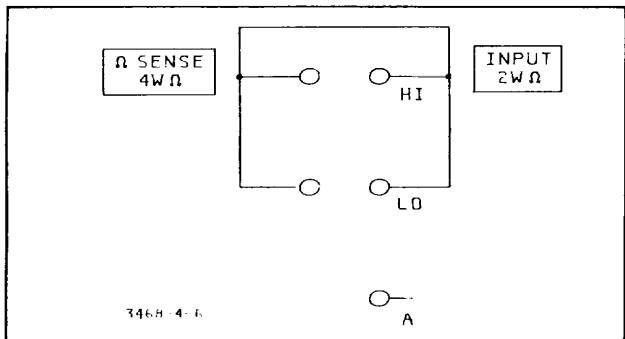
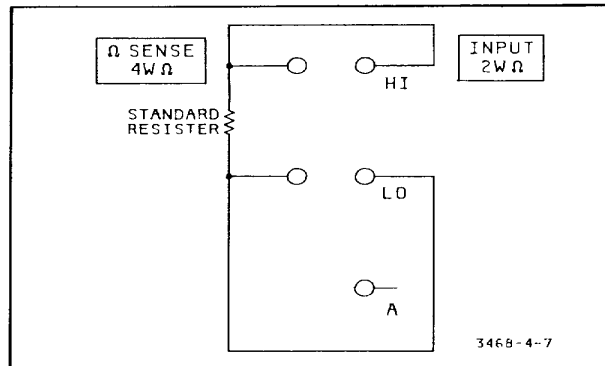

Figure 4-6. 4-Wire Ohms Short
Figure 4-7. 4-Wire Ohms Connection
4-72. If the 3478A is to be tested in the 2-Wire Ohms Function, all test resistors are applied to the 3478A's INPUT Terminals. If the 4-Wire Ohms Function is to be tested, short the INPUT Terminals and connect the test resistors to the terminals, as shown in Figure 4-6 and Figure 4-7, respectively.
- b. (Step #2.) Set the 3478A to the desired Ohms Function (see paragraph 4-70). If the 2-Wire Ohms Function is to be tested, short the HI and LO INPUT Terminals. If the 4-Wire Ohms Function is to be tested, short the SENSE Terminals and the INPUT Terminals, as shown in Figure 4-6. Check the reading on the 3478A's display and record the reading on the Test Card.
determine the resistor value). If the 3478A is to be tested in the 2-Wire Ohms Function, connect the resistor to the HI and LO INPUT Terminals. If the test is to be done in the 4-Wire Ohms Function, connect the resistor as shown in Figure 4-7.